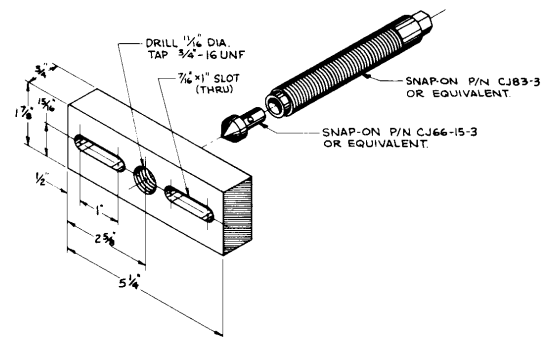

Figure 5.
5. Attach bar pullers as shown in Figure 5 to each bearing bore and pull end plate [4].